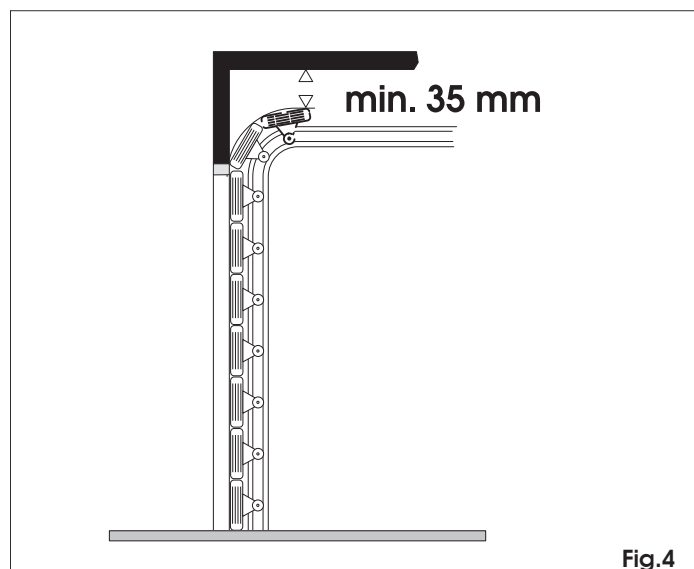

Fig.4
Maximum dimensions from ceiling (mm)	35 (Fig. 4)
- Make sure there is a clearance of at least 35 mm between the ceiling and the highest sliding point of the door (Fig.4).
- 2) On the architrave, mark a horizontal line corresponding to the maximum height reached by the door during movement (see Fig. 4).